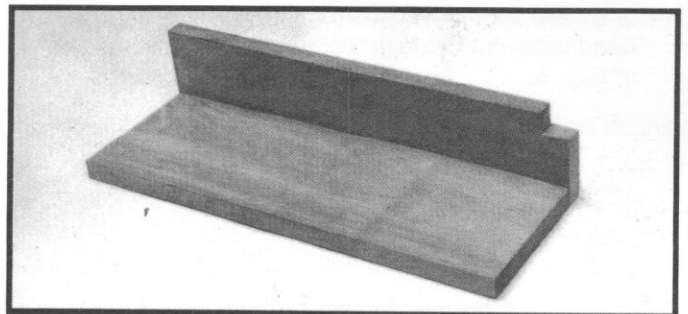

Fig. 2
2. Figure 2 illustrates the fence and table support assembled.